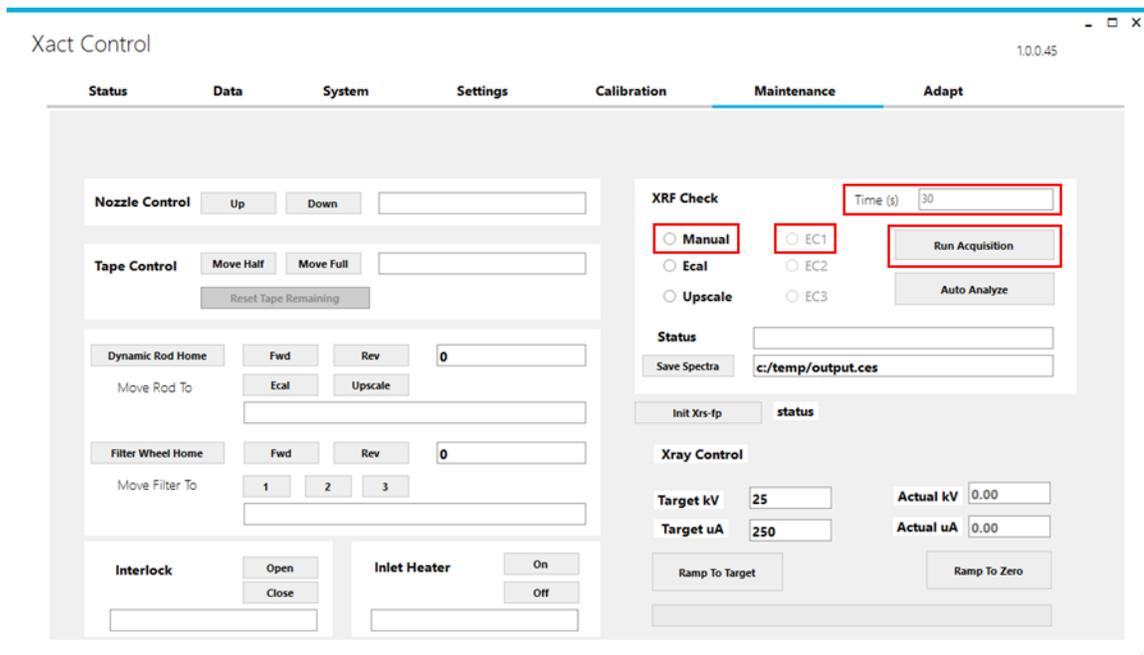

Figure 10.1 Settings for XRF Check.
10.2.3 Within 'XRF Check' section (**Figure 10.1**)